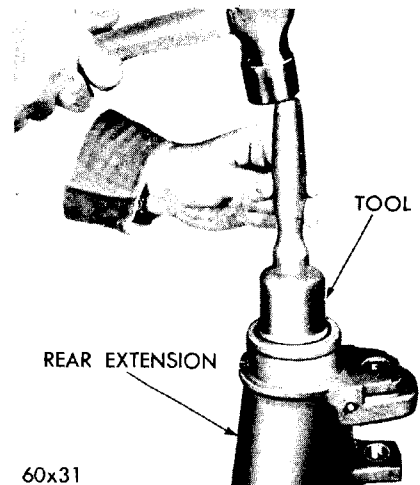

Fig. 25—Installing Output Shaft Rear Bearing Oil Seal
- (1) Using driver, Tool C-3691, install output shaft rear oil seal (with metal portion of seal facing down in housing bore) until tool bottoms on extension, as shown in Fig. 25.